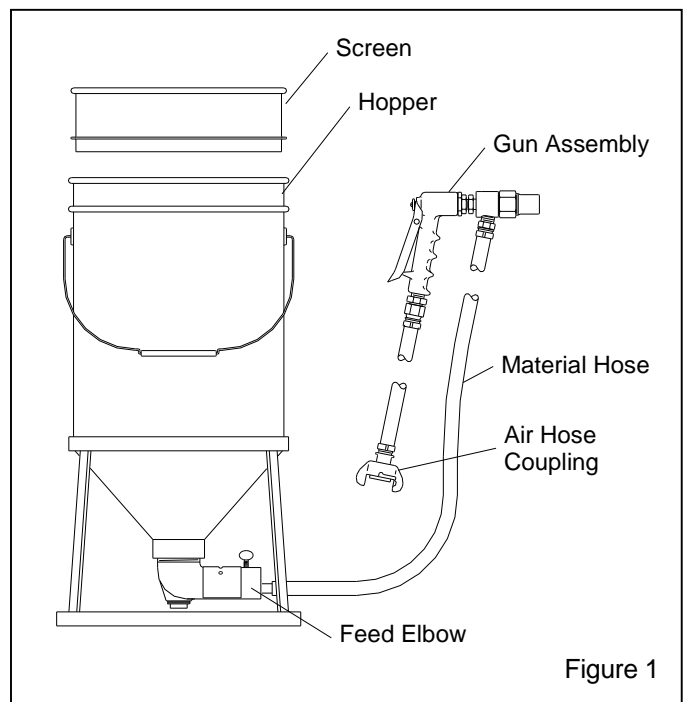

Figure 1
1.4.1.1 Components of the SG-300 suction gun system are shown in Figure 1.